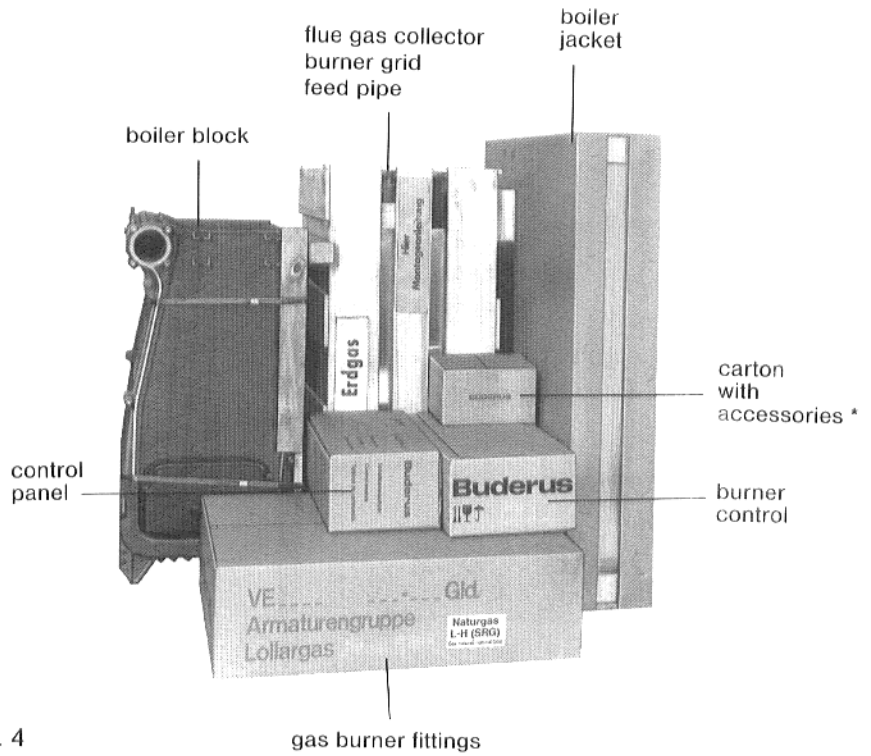

Fig. 4
a) boiler block assembled (Fig. 4)